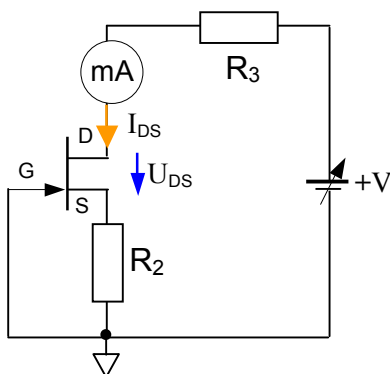

Fig. 9.7a
- 1) ➔ insert the Module E18 unit (1) in the console and set the main switch to ON;
- 2) ➔ connect the circuit as shown in Fig. 9.7a;
- 3) ➔ set the multimeter (1) as dc voltmeter and adjust drain-source voltage U_{DS} (with the positive variable supply) for $U_{DS} = 0.5$ V ;
- 4) ➔ set the multimeter (2) as dc milliammeter and measure the drain-source current I_{DS} through the J-FET;